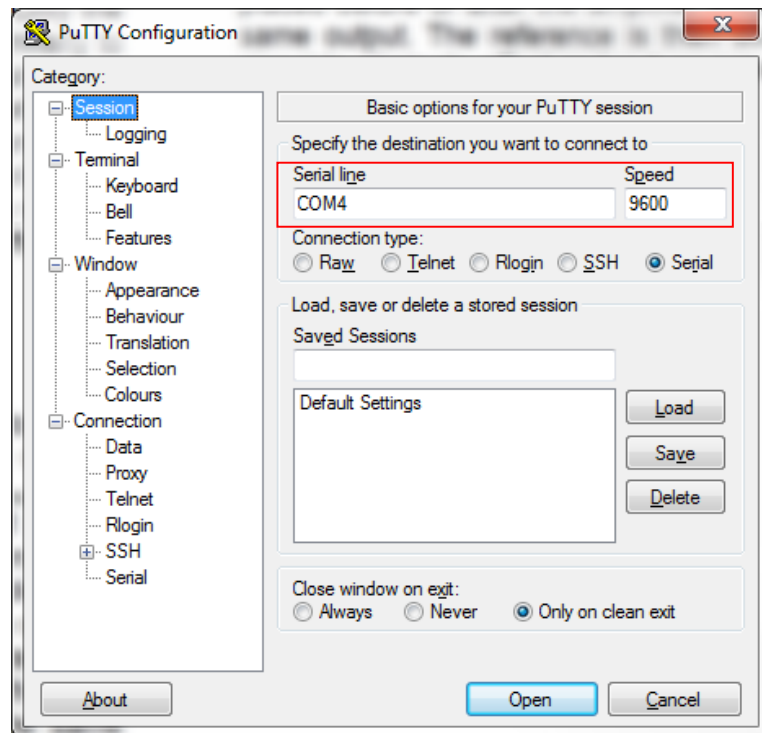

Figure 2. Putty window
4. Open a terminal emulation software such as "PuTTY" or "HyperTerminal" and open the COM (Serial) port number identified in previous step. Ensure that the speed is set to 9600 bps. See Figure 2.